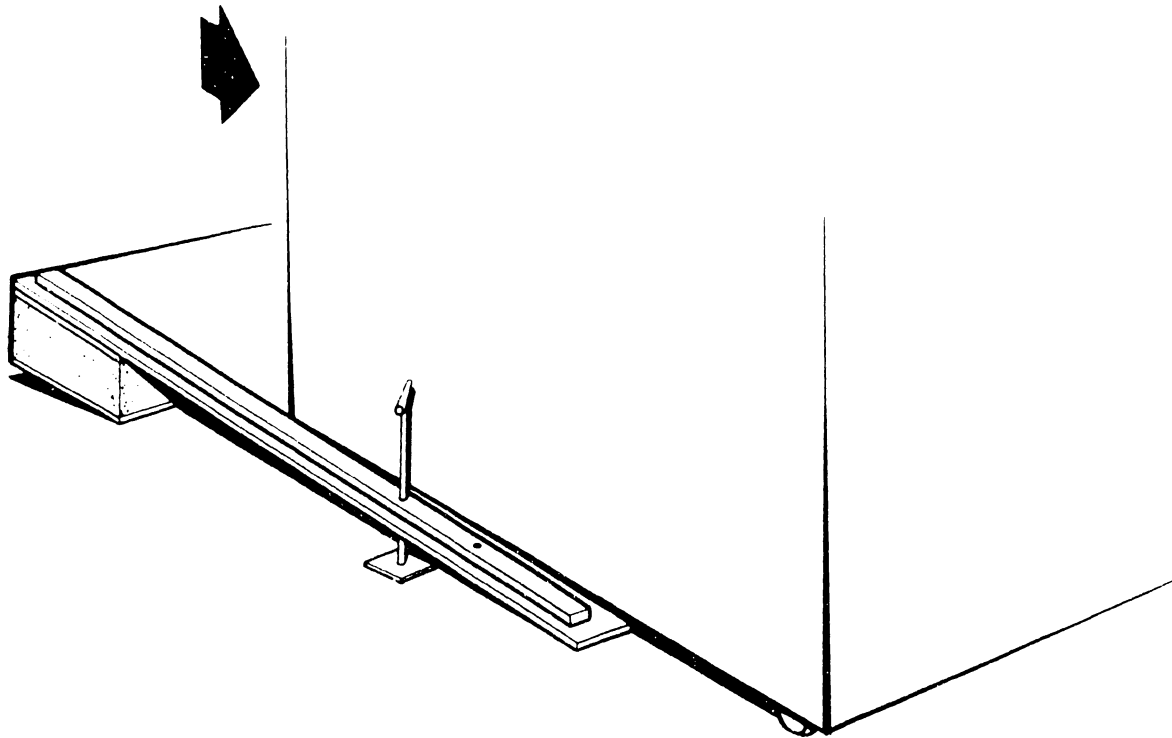

FIGURE 3-4 REMOVING THE MAINFRAME
10. Move the Mainframe to its permanent location and remove the protective polyethylene film. (See Figure 3-4.)